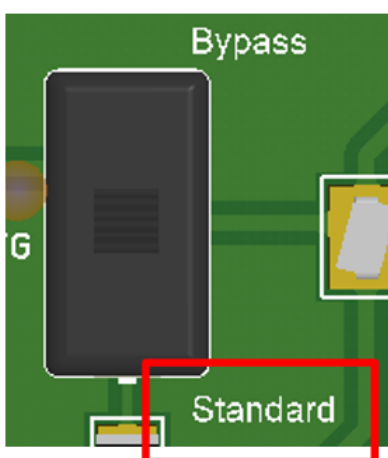

Figure 46. Bypass vs Standard = 'Standard'
- Set this switch to “Standard” (the “Bypass” setting is for designs that did not use TI’s programming board for the solution) as shown in Figure 46